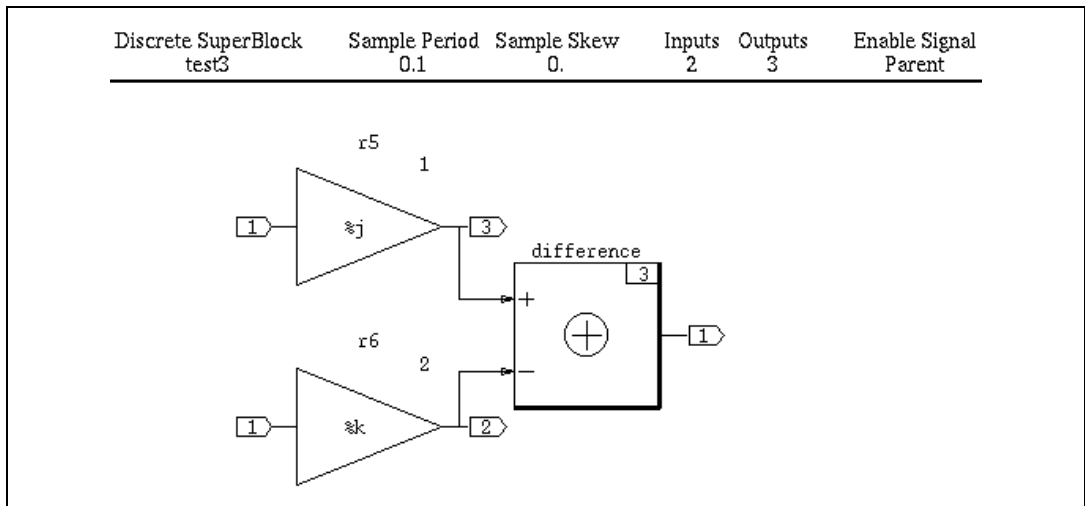

Figure 15-17. Gain Block Radix Example
1. Create a new SuperBlock and name it `test3`. Make it discrete and accept the default Sampling Interval of 0.1. You will set the data types later. Start building the model shown in Figure 15-17.
1. Display the model from Figure 15-17.